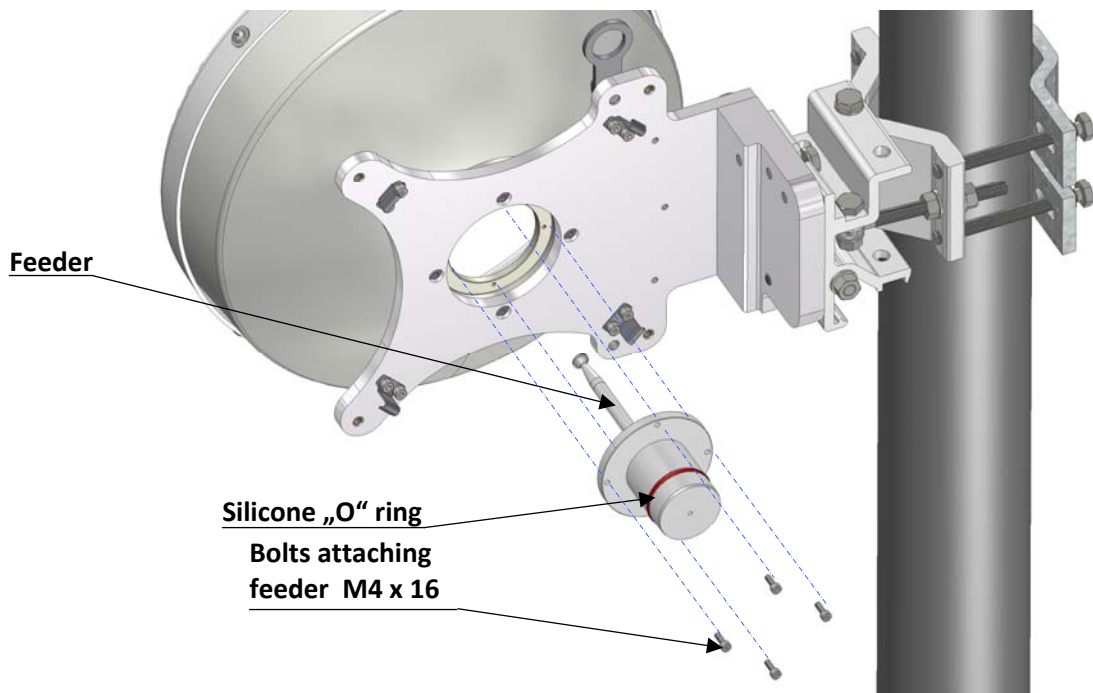

Figure 16 Attachment of feeder to the AL1-80/APR (AL2-80/APR) antenna
- Attach the feeder to the antenna using 4 M4 bolts (figure 16).